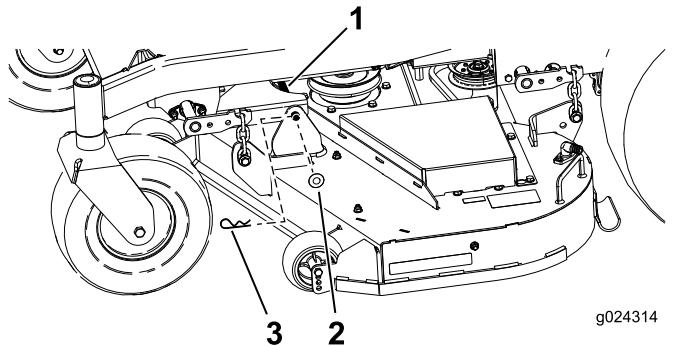

Figure 66
1. Remove the hairpin cotter and washer securing the link pin to the frame and deck, and remove the link bar (Figure 66).
9. Secure the link pin with the hairpin cotter and washers removed previously (Figure 66).